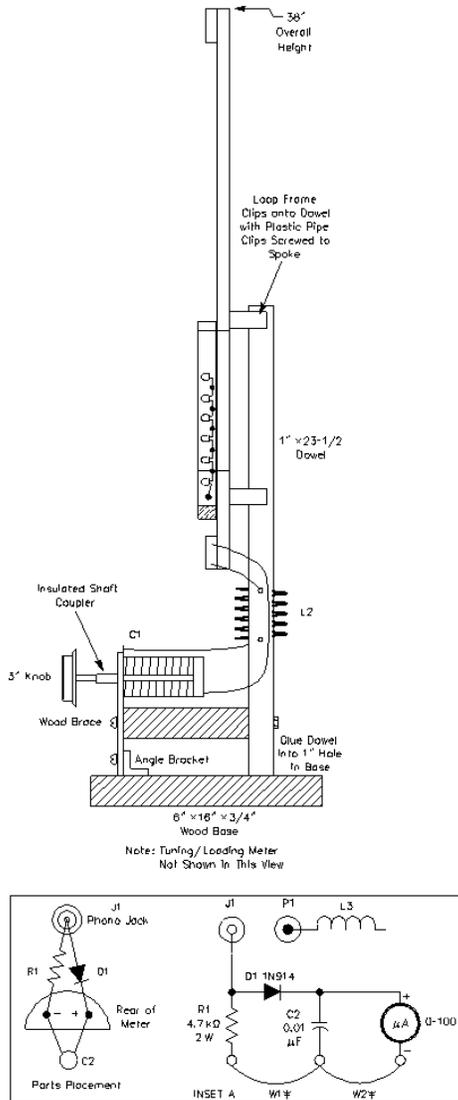

Figure 1—Construction details of the 80-meter indoor loop antenna.
The antenna is just 38×30 inches (HW). The 30-inch-diameter octagonal frame clips onto a vertical pole that mounts into a solid wooden base—see **Figure 1**. The loop-framework idea evolved over a decade. I have used it for loops with 18 to 48-inch diameters from VLF to VHF. A TUNING/LOADING meter and a neon “daisy chain” reference indicator make adjustment easy.
Figure 1 shows the loop circuit. The loop consists of a 5-turn, 30-inch-OD octagonal spiral loop, L1, which is series tuned by C1. Use heavy-duty wire for L1. We match the antenna circuit to the feed line by connecting the feed line center conductor to L2 at an appropriate spot. A simple TUNING/LOADING meter ensures that the loop is at resonance, with maximum radiation. This is confirmed by illumination of six small neon lamps (coupled to L1's innermost turn) that give a quick visual check after a frequency change.
The loop radiation pattern is directional, with minimum radiation perpendicular to the plane of the loop. Maximum radiation is in the plane of the loop. Although theory says this loop should have a symmetrical radiation pattern, my loop exhibits a 2:1 front-to-back ratio, with the maximum radiation as indicated in **Figure 1**. The receive performance is quiet, with much lower QRN and QRM levels than with my end-fed slinky at 30 feet.
Figure 1 shows most construction details for the antenna. Assemble the loop-frame spokes as shown. Screw a 6-position, 2-A terminal block to the end of each spoke. These blocks are guides for the spaced coil winding. Clip the assembly to the vertical pole with two PVC standoff wall clips as used for 1-inch water pipes.
ARRL Technical Information Coordinator, Mike Tracy, KC1SX, has noted corrections for "**An In-Room 80-Meter Transmitting Multiturn Loop Antenna**" that appears on pages 43 to 46 of the February 1996 *QST*. With regard to C1, the text should read "The fixed plates are connected to the upper end of L1 . . ." In **Figure 1**, the words "Stator" and "Rotor" should be transposed.